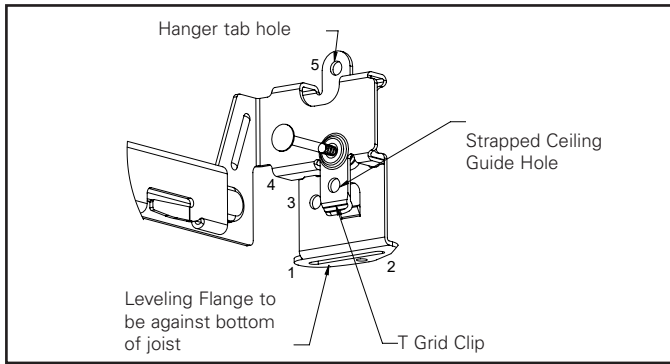

Figure 2.
1. Extend bar hangers to fit between joists. Position fixture by hammering nails into joists. Hanger bar flange should be against bottom of joist (Figure 2).
1. Use the guide hole below nail (Figure 2) to align bar hanger bracket below joist to adjust for the thickness of the strapping.
2. Align the guide hole below the joist (Figure 2) to where you just see through the guide hole and hammer nails into joists.
1. Use leveling flange (Figure 2) to position housing on bottom of strapping (strapping must be 12" [30.5 cm] to 24" [61 cm] apart).
2. Use slot or hole in leveling flange (Figure 2) to secure the bar hanger bracket to the strapping with nails or screw (not included).